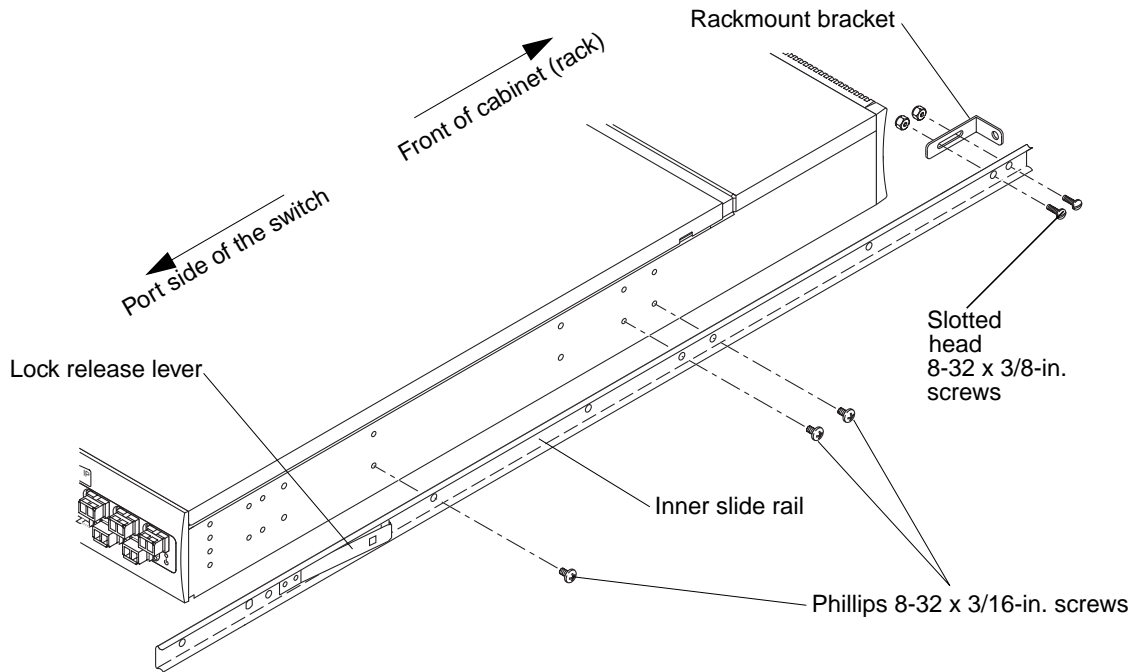

FIGURE 3-2 Installing the Inner Rail (Shown With Optional Lower Set of Holes)
- To install the switch so that the additional 0.5 RU is above the slide rail, install the inner slide rail in the lower row of holes on the switch. See FIGURE 3-2.
- To install the switch so that the bulk of the switch is below the slide rail, install the inner slide rail in the upper row of holes on the switch. See FIGURE 3-2.
To allow the power supply side of the 3900 switch to slide out the front of the rack, orient the rail as shown in FIGURE 3-2, with the end containing the lock release lever towards the port side of the 3900 switch.
- a. Position a rackmount bracket at the end of one of the inner slide rails (the end that does not contain the lock release lever), as shown in FIGURE 3-2.